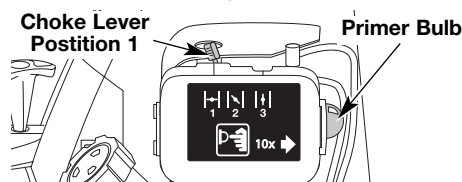

Fig. 12
4. Fully press and release the primer bulb 10 times, slowly. Some amount of fuel should be visible in the primer bulb and fuel lines (Fig. 12). If you can't see fuel in the bulb, press and release the bulb as many times as it takes before you can see fuel in it.
5. Place the choke lever in **Position 1** (Fig. 12).